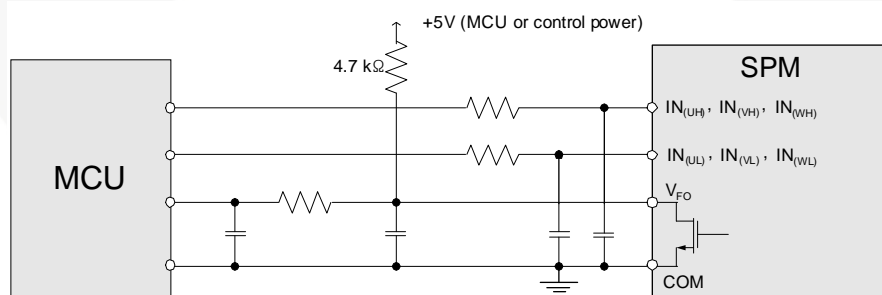

Figure 14. Recommended MCU I/O Interface Circuit
16. V_{FO} output is an open-drain type. This signal line should be pulled up to the positive side of the MCU or control power supply with a resistor that makes I_{FO} up to 2 mA. Please refer to Figure 14.